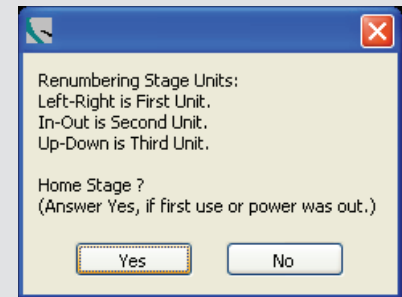

Figure 7.2
3. A second dialog window will open asking if the XYZ stage requires a *Home Stage* operation. The *Home Stage* operation is required if this is the first use of the stage or if power to the stage motors has been interrupted or disconnected (Figure 7.2)